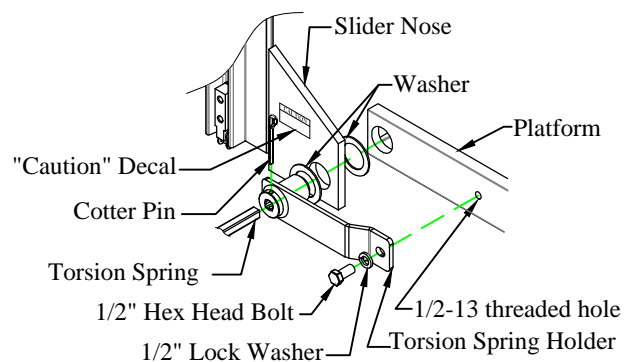

Figure 6: Torsion spring hardware.
2. **INSTALL** the torsion spring holder through the driver side slider nose, washers, and into the platform (Figure 6).
4. **MARK** and **DRILL** a 27/64" hole in the aluminum platform end cap using the spring holder as a guide (Figure 6). For steel platforms, **DRILL** a 7/8" hole and **WELD** in the supplied threaded lug, see welding note.
5. **TAP** the hole, drilled in the previous step, with a 1/2-13 tap, aluminum platform only (Figure 6).
6. **SECURE** the driver side torsion spring holder to the platform with a 1/2-13 hex head bolt and lock washer (Figure 6).
7. **INSTALL** the torsion spring in the platform by inserting it through the driver side spring holder (Figure 6).
10. **INSTALL** the cotter pin in the driver side torsion spring holder (Figure 6).
15. **ATTACH** the torsion spring holder to the slider nose using the supplied 3/8-16x1-1/2" bolt and lock nut (Figure 6). The nut goes on the outboard side of the slider nose.